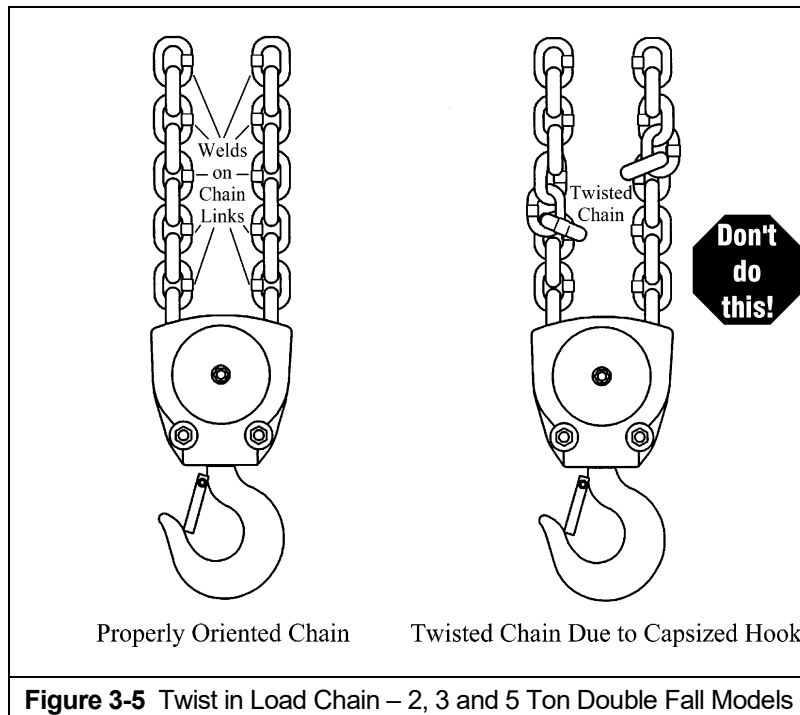

Figure 3-5 Twist in Load Chain – 2, 3 and 5 Ton Double Fall Models
- 3.2.6 **⚠️ WARNING** Verify that the load chain is not twisted or tangled prior to operating the hoist. Make sure the bottom hook on 2, 3 and 5 Ton double fall models is not capsized. See Figures 3-5 and 3-6. Correct all chain irregularities before conducting the first hoist operation.